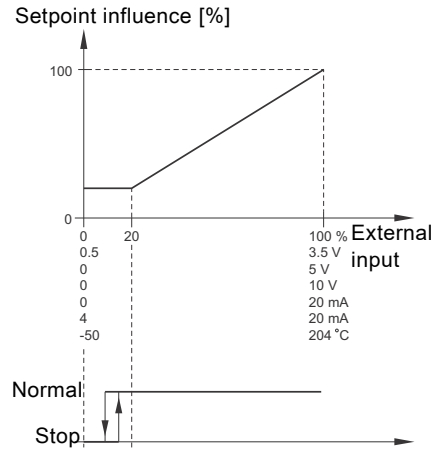

Fig. 49 Linear with Stop
- In the input signal range from 20 to 100 %, the setpoint is influenced linearly. If the input signal is below 10 %, the pump changes to operating mode Stop. If the input signal is above 15 %, the operating mode is changed back to Normal. See fig. 49.